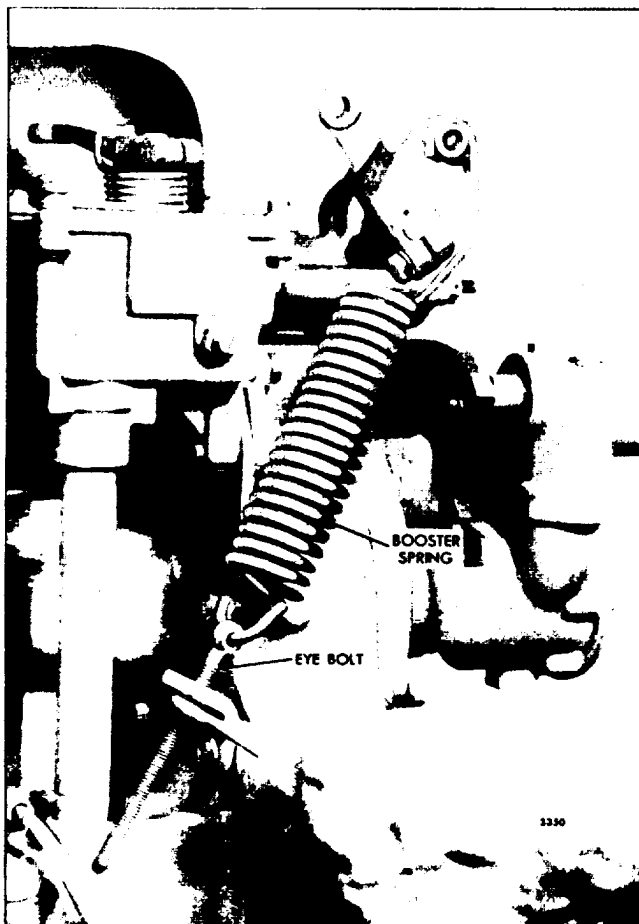

Fig. 8 - Adjusting Booster Spring
2. Refer to Fig. 8 and loosen the booster spring retaining nut on the speed control lever. Loosen the lock nuts on the eye bolt at the opposite end of the booster spring.